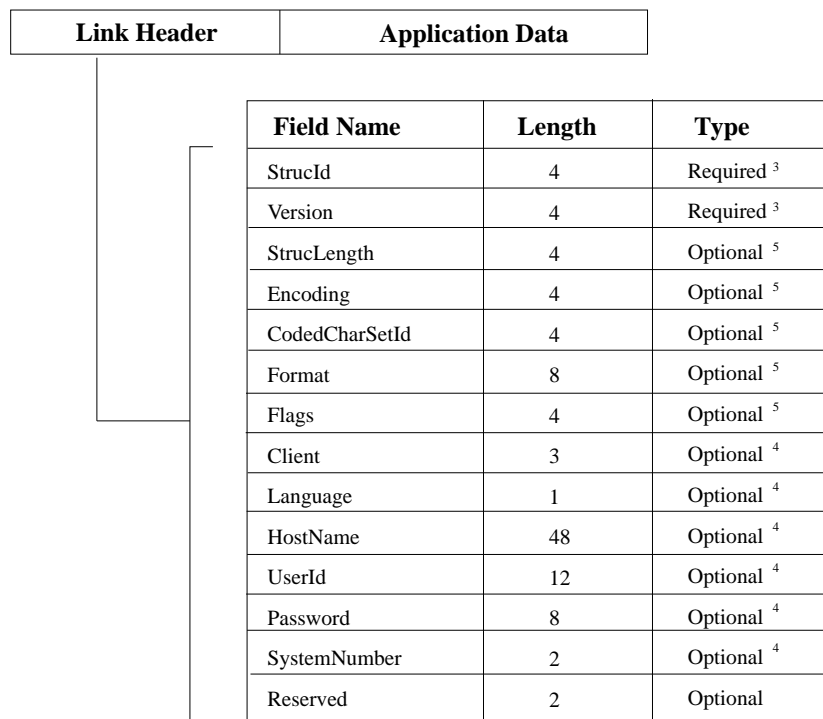

Figure 13. Structure of the MQSeries link for R/3 header
2. The message data begins with a link header that is used by the MQSeries link for R/3 software (and in some cases by non-SAP applications). The link header contains information to identify the destination of the message. Figure 13 on page 47 shows the details of the MQSeries link for R/3 header structure.